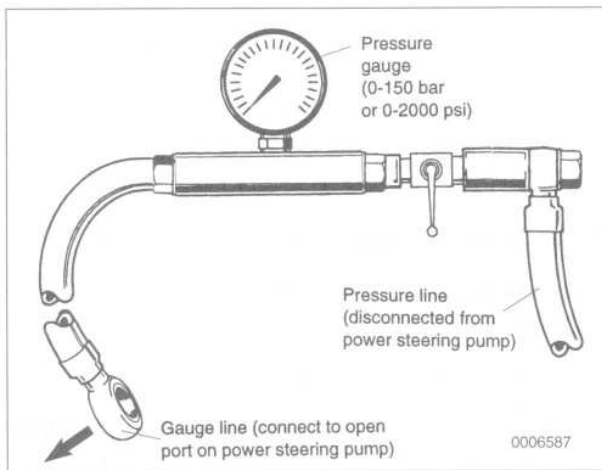

Fig. 2. Pressure gauge setup for testing power steering pump pressure.
1. Connect the pressure gauge in the high pressure line between the pump and the gearbox. See Fig. 2.